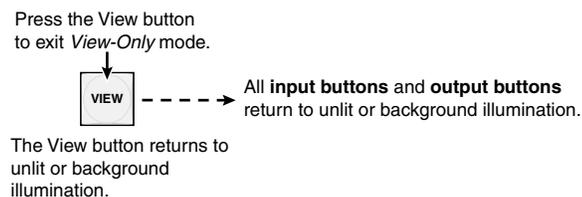

Figure 3-55 — Press the View button to exit View-only mode
6. Press and release the View button to exit View-only mode (figure 3-55).